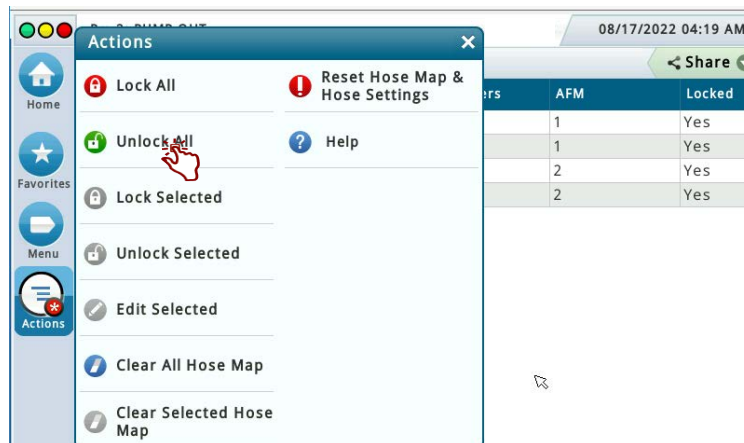

Figure 24. Unlock Hoses
2. Assisted mapping is easier on a site with previous events recorded on all fuel meters. However, we recommend that you shut down dispensing during assisted hose mapping. Ensure that all Hoses are not Locked. Touch the Actions button and select Unlock All (see Figure 24).